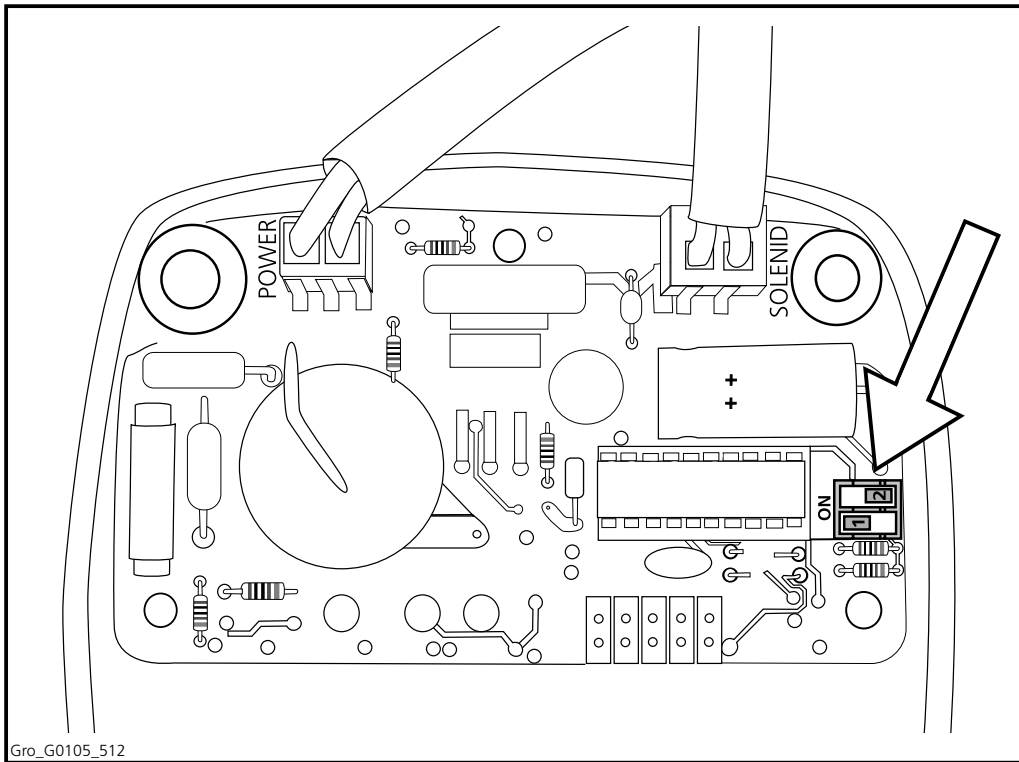

Figure 5.13 DIP switches
3. There are two DIP switches on the printed circuit board (Figure 5.13). Set the switches to the right position for the desired greasing interval (see following table).
3. There are 4 DIP switches on the printed circuit board (Figure 5.13). Set the switches to the right position for the desired greasing interval (see following table).